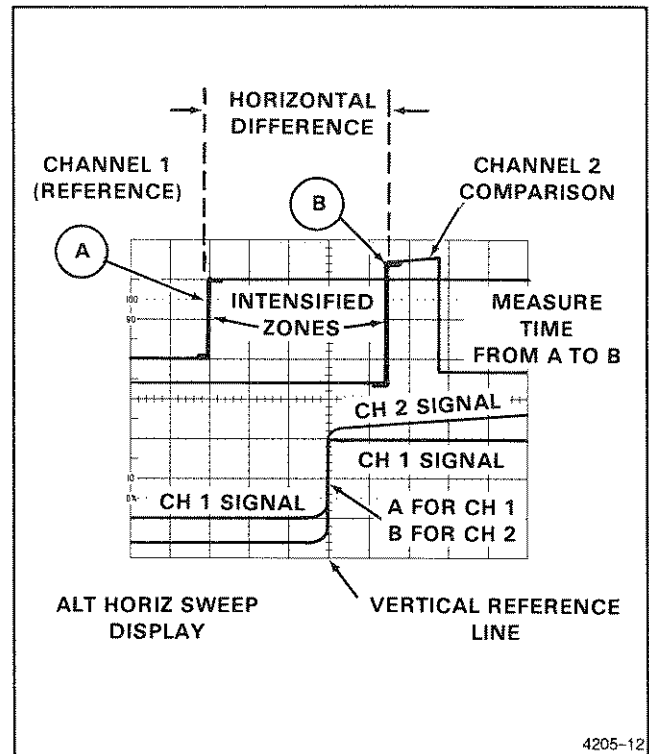

Figure 2-19. Time difference between points on two time-related signals in nontriggered mode.
10. Adjust the B DELAY TIME POSITION control to move the reference zone to the reference signal on the CH 1 A trace (see Figure 2-19).
11. Adjust the  $\Delta$  TIME POSITION control to move the comparison zone to the comparison signal on the CH 2 A trace (see Figure 2-19).